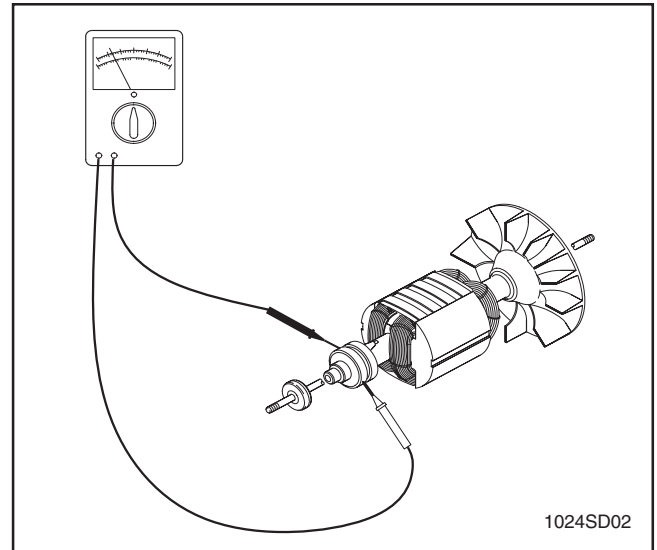

Figure 5-15. Checking Rotor
2. Measure resistance as shown in the illustration, by measuring the winding at the slip rings. See Figure 5-15.